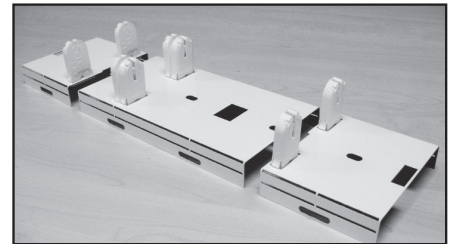

Figure 2: Bend the flexible tabs on the RetroFit Socket Plate 90 Degrees.
6. Bend the flexible tabs of all three sections of the RetroFit Socket Plate approximately 90 degrees. See Figure 2.
7. Before installing the two (2) end sections and one (1) center section onto the 8-foot "strip-light" luminaire, it is recommended that you first pre-wire the lamp holders that are installed in the socket plate to the ballast conductors.